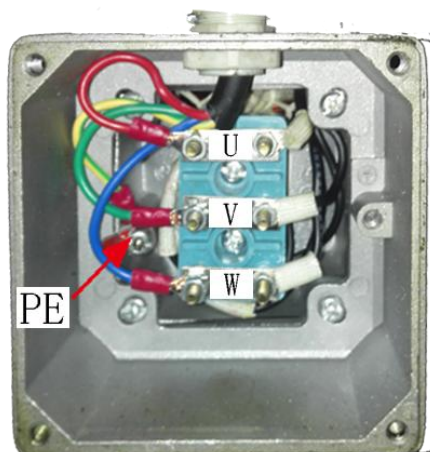

Fig 13
- Wiring of the three-phase motor is as shown below (Fig. 13).